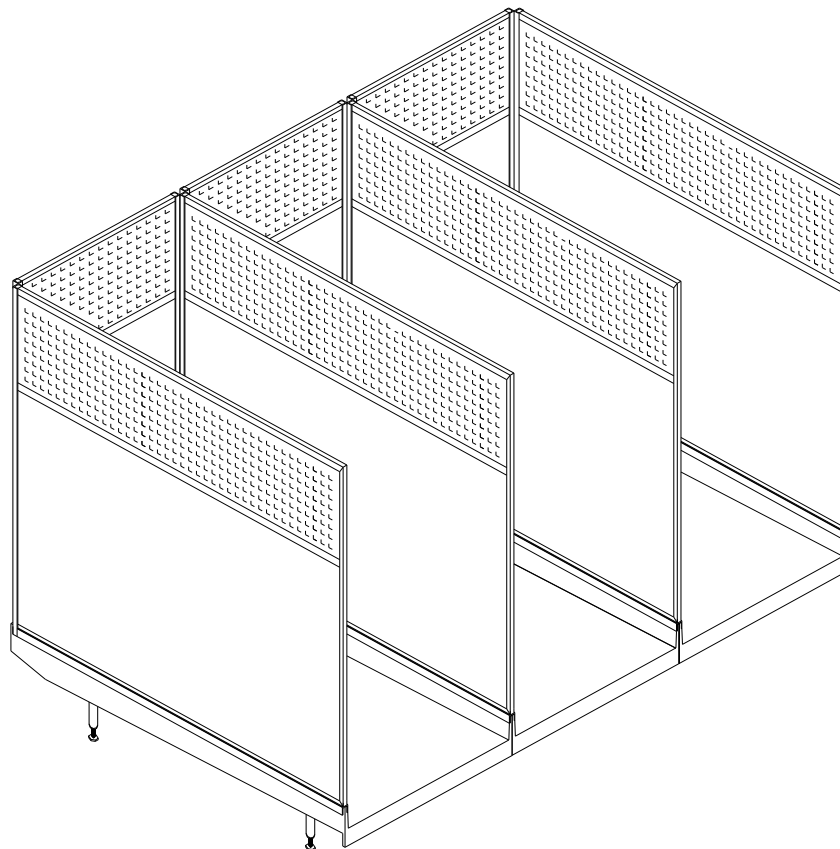

Figure 7.
2. Continue down the length of the run in the same manner. See Figure 7.
4. Continue down the length of the run in the same manner. See Figure 7 above.